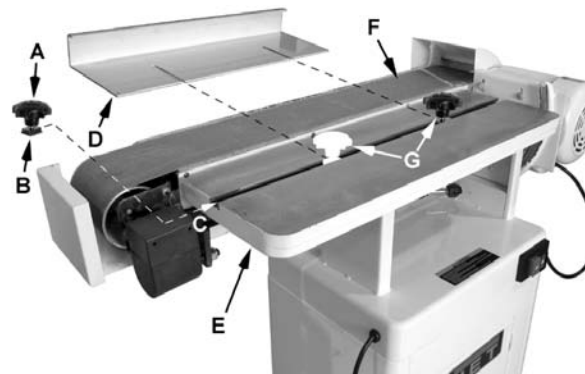
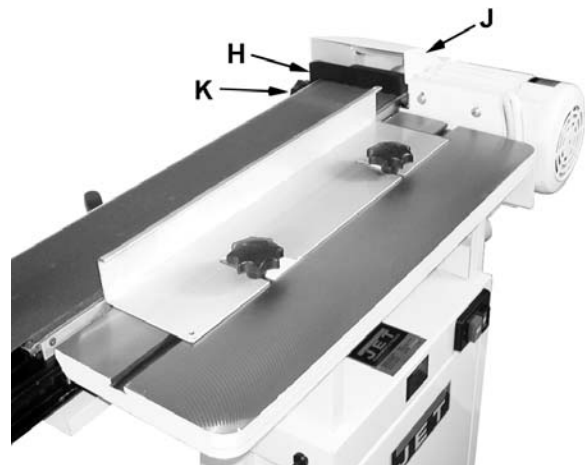
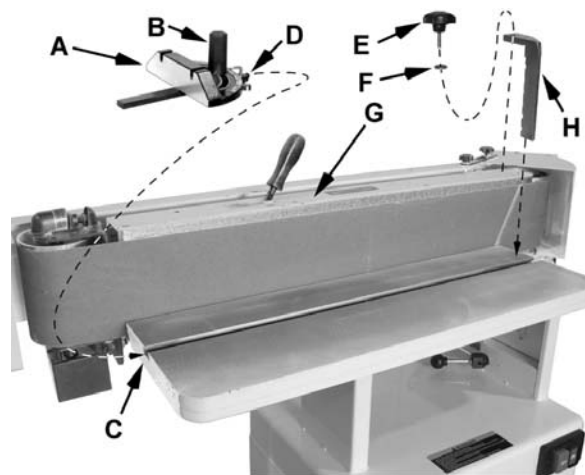

Figure 16
Figure 17
Figure 18
Referring to Figure 16:
1. Place 5/16 *flat washers* (not shown) and *guide blocks* (B) on two 12mm *lock knobs* (A) – Note: the 12mm refers to the threaded shaft length.
2. Insert the *guide blocks* (B) into the *miter slot* (C) and position the *lock knobs* (G) on the *table* (E) as shown.
3. Place the *removable fence* (D) on the table and secure by tightening the *lock knobs* (G, Fig. 16 and Figure 17).
The *backstop* (H, Fig. 17) can also be used by swiveling the *drum guard & dust port* (J, Fig. 17) out of the way and placing the backstop pin in the positioning hole and securing in place with the *lock knob* (K, Fig. 17) and 5/16" *flat washer*. **Note:** This is better shown in Figure 18. The *drum guard & dust port* (J, Fig. 17) can then be returned to the position shown.
Referring to Figure 18: